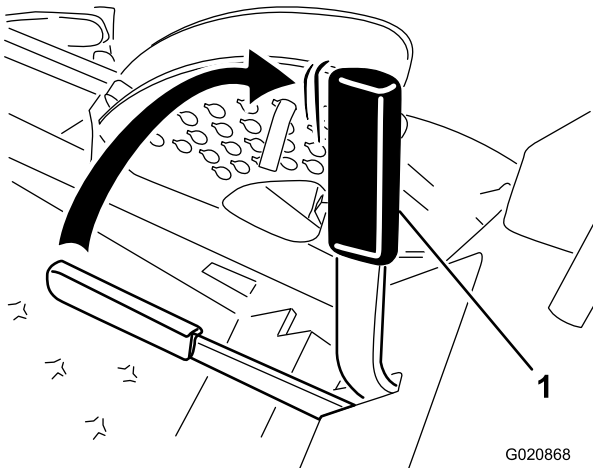

Figure 45
2. Pull up and back on the parking brake lever to set the parking brake (Figure 45).